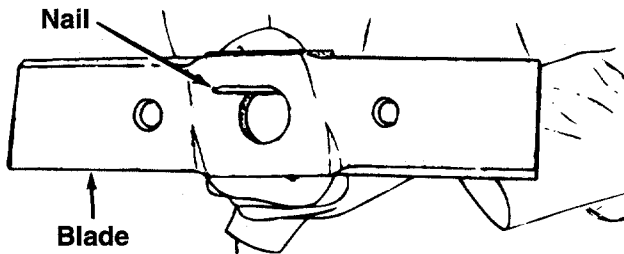

FIGURE 21.
- The blade can be tested for balance by balancing it on a round shaft screwdriver or nail. Remove metal from the heavy side until it is balanced evenly. See figure 21.